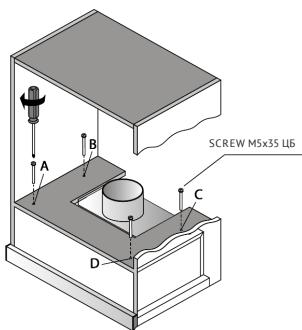

Fig. 5.1
6.6.1 Make a paper template with the CDEF hole coordinates (Fig. 4), attach the template to the furniture shelf (Fig. 5.1).